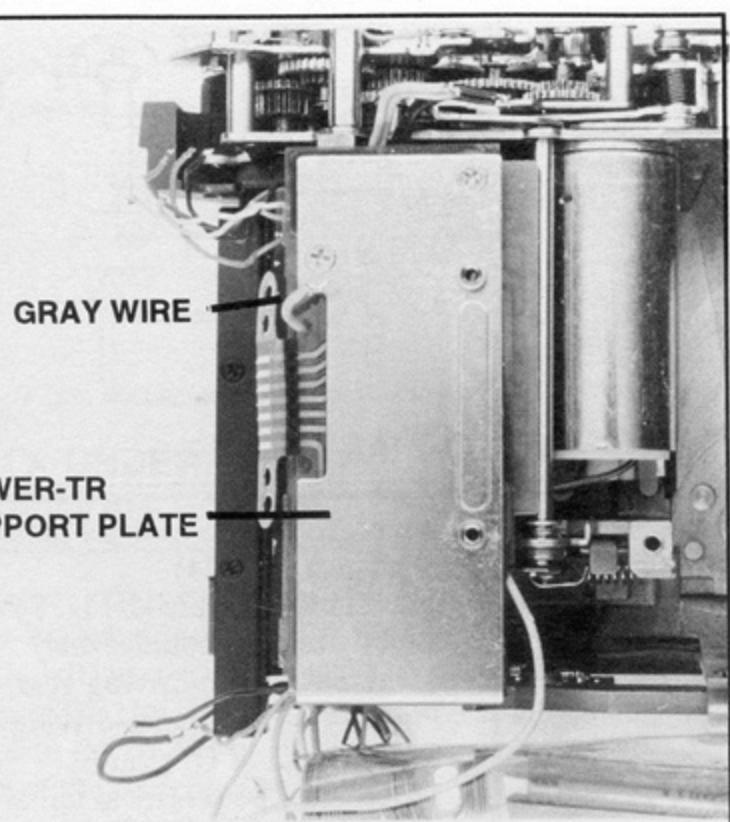

FIG. 25 FRONT VIEW, MAIN FPC REMOVED
22. lift front of main FPC away from power-tr support plate, Fig. 25
14. Route the gray wire under the power-tr FPC, Fig. 25. Replace the power-tr support plate (2) screws.